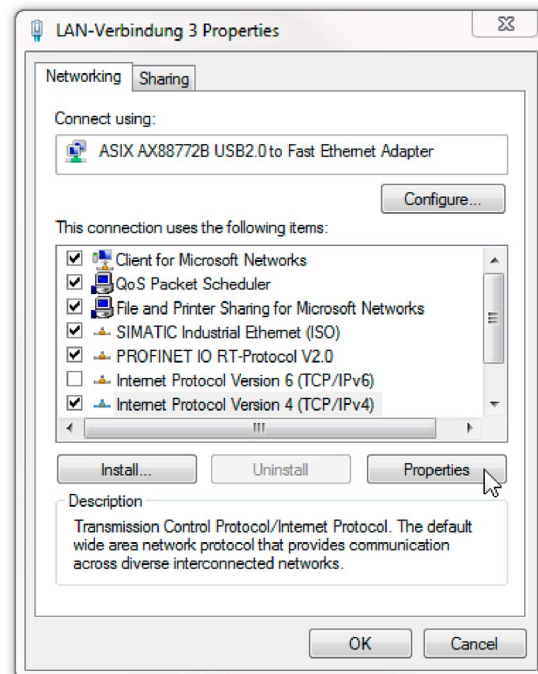

Fig. 49: Choose TCP/IPv4
4. Choose “Internet Procotol Version 4 (TCP/IPv4)” and click “Properties” (Fig. 49).